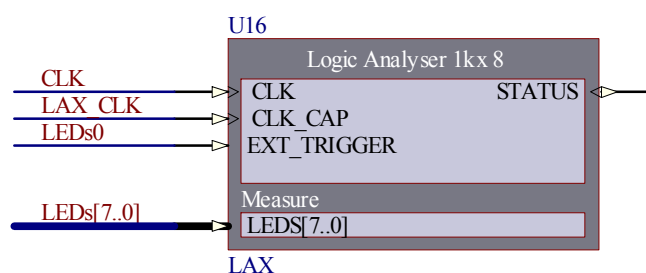

Figure 47. Wiring for the configurable LAX
9. Wire the LAX as it appears in Figure 47.